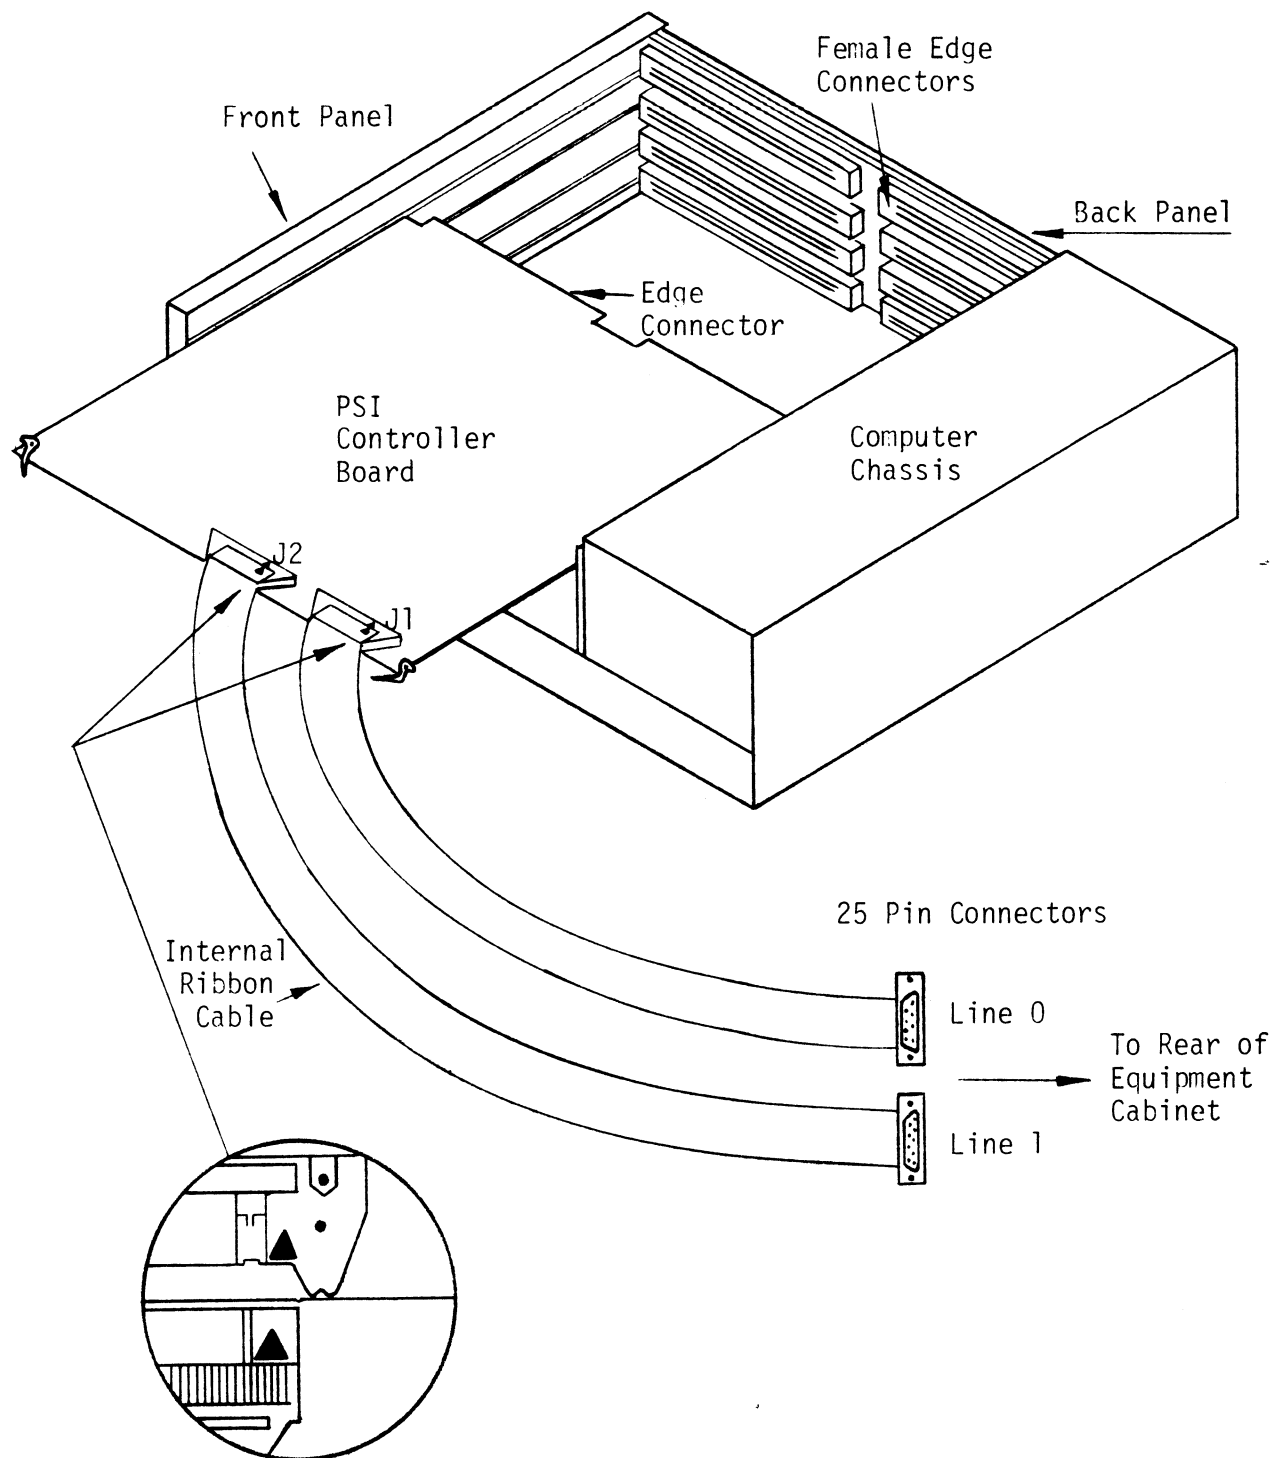

FIGURE 2.1 BOARD AND CABLE INSTALLATION
The controller board may be installed in any general I/O, memory - I/O or I/O only slot of the Data General Nova or Eclipse mini-computer. Install the controller in the desired slot, component side up and lock into position with release levers (see Figure 2.1) CAUTION: Be sure keyways in backplane connector line-up with slots in controller board edge connector and arrows on ribbon cable plug match arrows on cable connector (see Inset - Figure 2.1).
2.3 CABLES (refer to Figure 2.1)